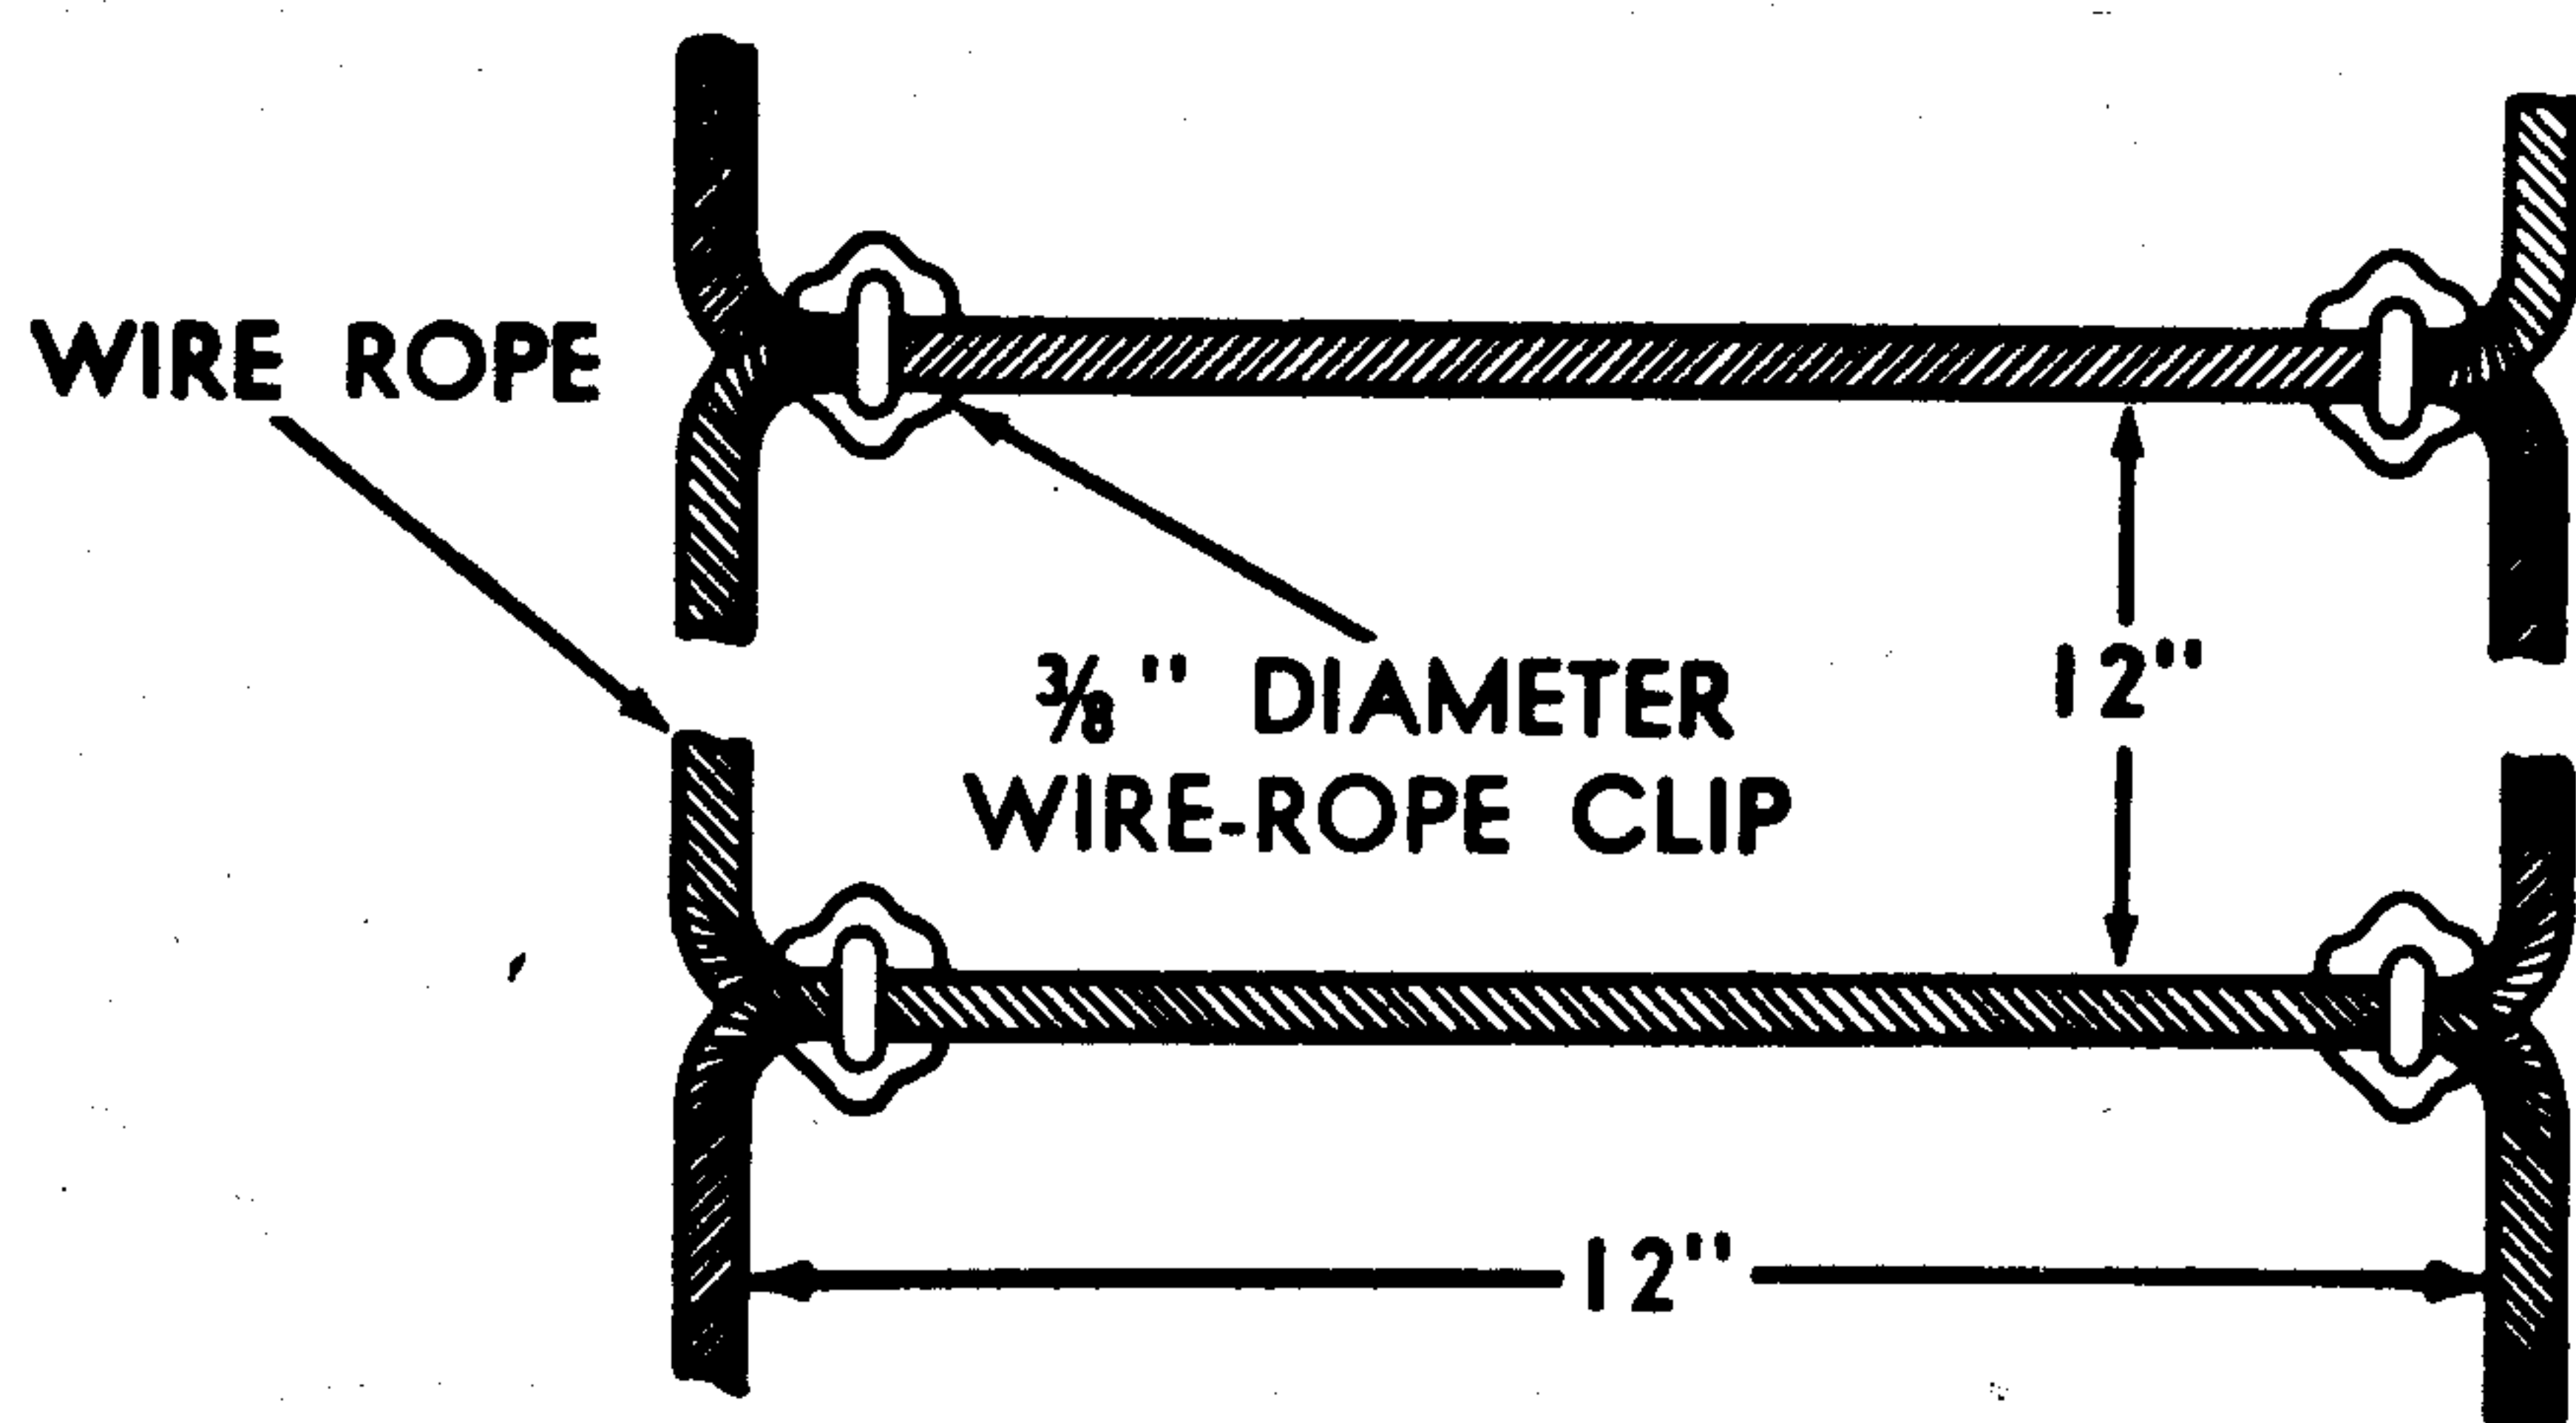

Figure 2-58. Wire rope rungs.
b. Wire Rope Ladder With Wire Rope Rungs. A wire rope ladder with wire rope rungs is made by laying the $\frac{3}{8}$ -inch diameter wire rope uprights on the ground. The first length is laid out in a series of U-shaped bends. The second length is laid out in a similar manner (fig. 2-58) with the U-shaped bends in the opposite direction from those in the first series, and the horizontal rung portions overlapping. A $\frac{3}{8}$ -inch wire rope clip is fastened on the overlapping rung portions at each end of each rung to hold them firm.